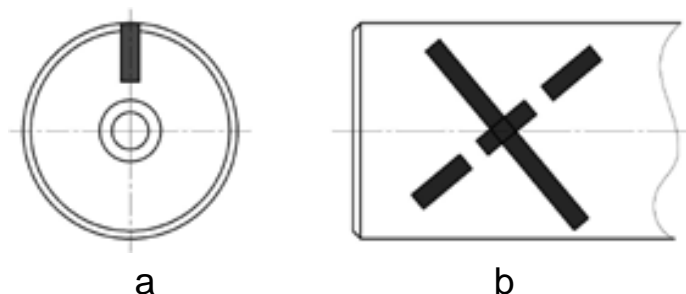

Fig. 8.1. Examples of marking end (a) and lateral (b) surfaces of free end of the shaft.
8.6.3 Apply a contrast mark (for example, with a black marker or white crayon) on the end surface of the free end of the shaft (Fig. 8.1 a) or two marks on opposite sides (crossing) on the side surface of the free end of the shaft (Fig. 8.1 b).